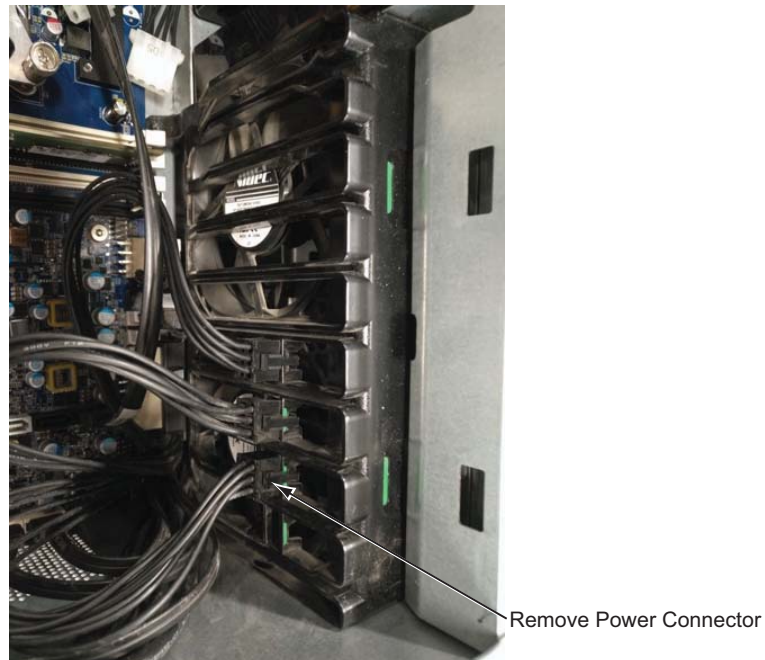

**Figure 3-6 PCI Slot Cover Removal**
c.) Remove two PCI slot cover from back side shown as Figure 3-6